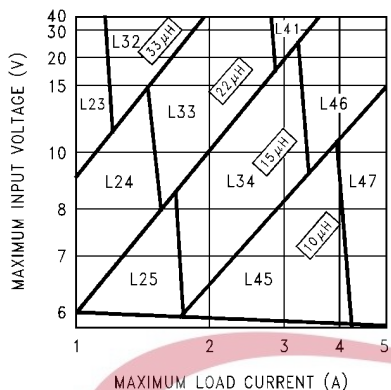
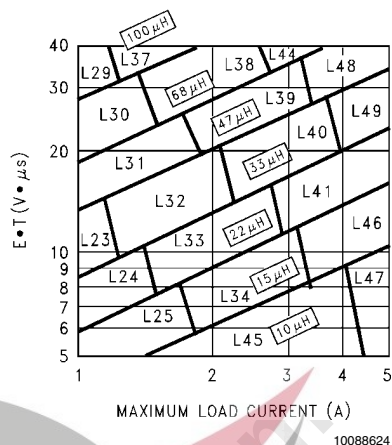

FIGURE 3. LM2678-3.3
FIGURE 6. LM2678-ADJ
Step 3: Determine the inductor required by using one of the four nomographs, *Figure 3* through *Figure 6*. Table 1 provides a specific manufacturer and part number for the inductor.
Step 5: Determine an input capacitor from Table 4 for fixed output voltage applications. Use Table 2 to find the specific capacitor type. For adjustable output circuits select a capacitor from Table 2 with a sufficient working voltage (WV) rating greater than $V_{in\ max}$, and an rms current rating greater than one-half the maximum load current (2 or more capacitors in parallel may be required).
Step 3: Use the nomograph for the 3.3V device, *Figure 3*. The intersection of the 16V horizontal line ($V_{in\ max}$) and the 4A vertical line ($I_{load\ max}$) indicates that L46, a 15 μ H inductor, is required.
Step 3: To use the nomograph for the adjustable device, *Figure 6*, requires a calculation of the inductor Volt•microsecond constant ($E \cdot T$ expressed in V• μ S) from the following formula:
Using Figure 6, the intersection of $27V \cdot \mu s$ horizontally and the 3.5A vertical line ($I_{load} \max$) indicates that L48, a 47 μH inductor, or L49, a 33 μH inductor could be used. Either inductor will be suitable, but for this example selecting the larger inductance will result in lower ripple current.
Figure 6, selects an inductance of 22 μH or less, Table 6 does not provide an output capacitor solution. With these conditions the number of output capacitors required for stable operation becomes impractical. It is recommended to use either a 33 μH or 47 μH inductor and the output capacitors from Table 6.